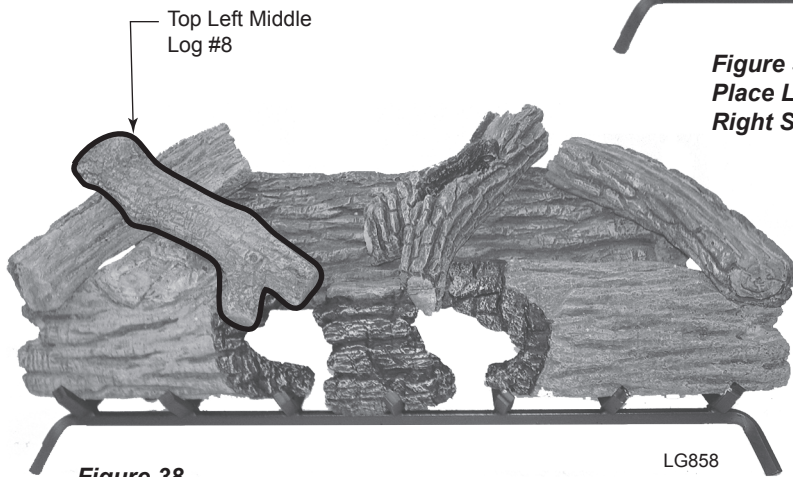

Figure 38 -
- 9. Install top left middle log #8. *Figure 38*